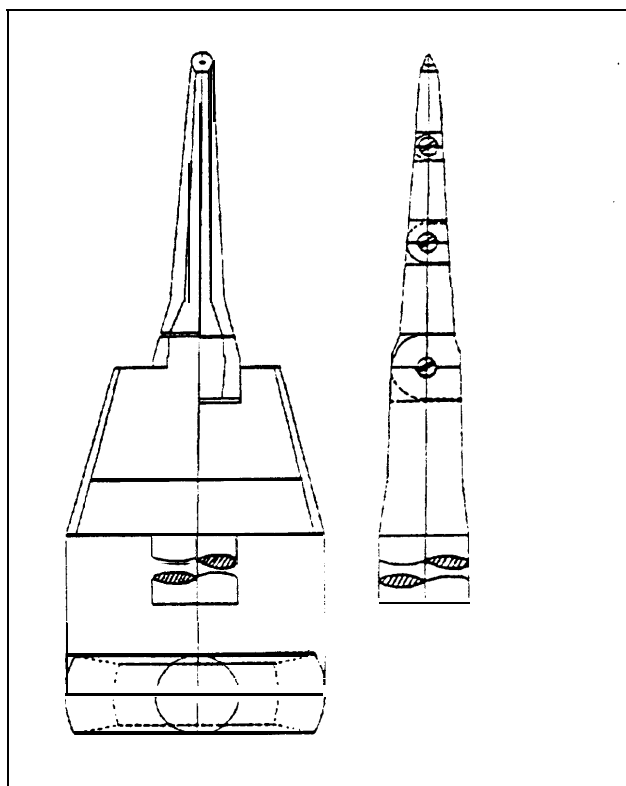

Figure 4-5: Articulated web stop probe.
- h. *Articulated Web Stop Probe (fig 4-5)\*\*.*
Openings that may provide access to potential pinch, crush, and shear points should be inspected with the articulated web stop probe (fig 4-5). A tape measure will also be needed.